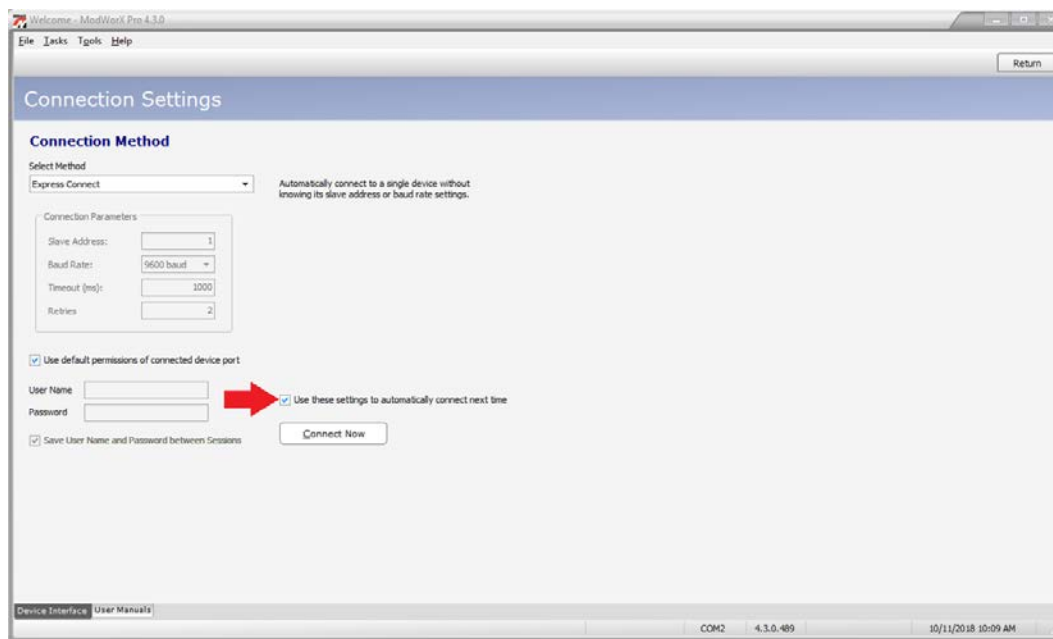

Figure 1.6
- 6. If you will use the same connection method each time you connect to the device, select the “*Use these settings to automatically connect next time*” checkbox at the bottom of the screen (Figure 1.6, page 5). The software will attempt to connect to the device without prompting the user to select a connection method.